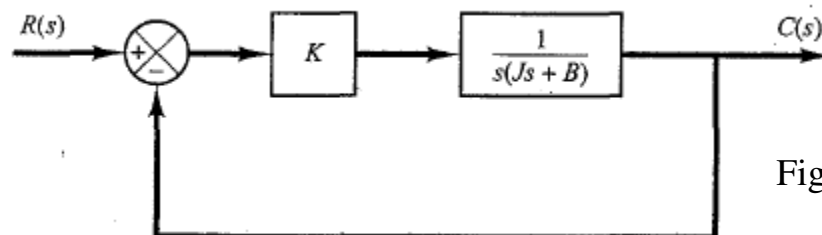

Fig. 9
14) Consider the system shown in Fig. 9. Prove that the steady-state error for a unit ramp input is $\frac{2\zeta}{\omega_n}$. Also show that the damping ratio is $\frac{B}{2\sqrt{KJ}}$ and the undamped natural frequency is $\sqrt{\frac{K}{J}(1-\zeta^2)}$